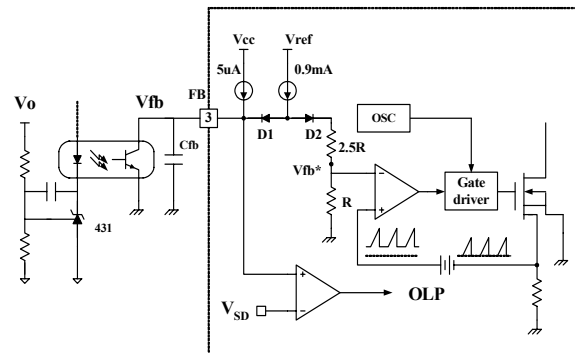

Figure 5. Pulse width modulation (PWM) circuit
2. Feedback Control : The FSDx0365RNB employs current mode control, shown in figure 5. An opto-coupler (such as the H11A817A) and shunt regulator (such as the KA431) are typically used to implement the feedback network. Comparing the feedback voltage with the voltage across the R_{sense} resistor plus an offset voltage makes it possible to control the switching duty cycle. When the reference pin voltage of the KA431 exceeds the internal reference voltage of 2.5V, the H11A817A LED current increases, thus pulling down the feedback voltage and reducing the duty cycle. This event typically happens when the input voltage is increased or the output load is decreased.